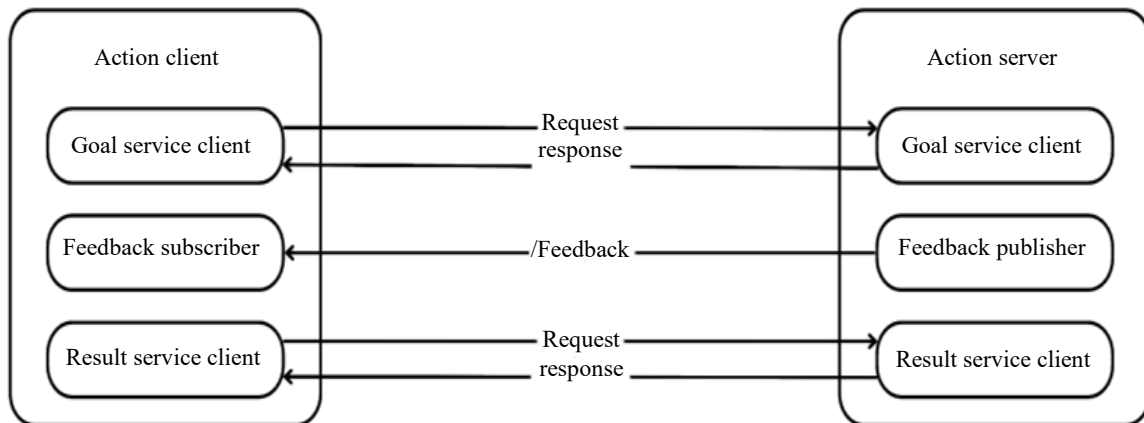

Figure 4. Actions.
3. *Actions*: Actions are preferred for discrete behaviors and tasks that take longer to start. Actions are Heavily used in the Nav2 Package (Figure 4).